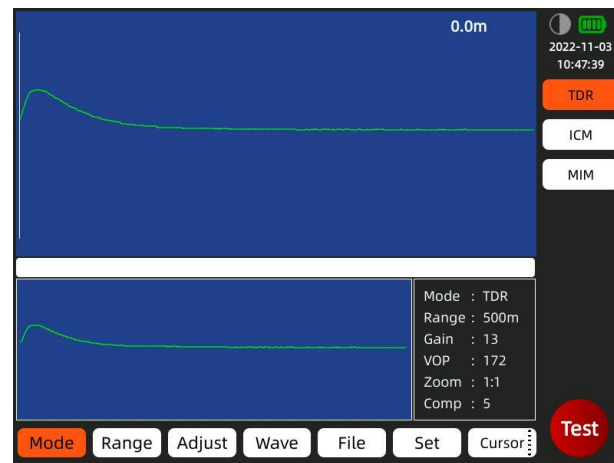

Figure 4.3 Operating mode selection
The TDR pulse can be launched by pressing the Test button (figure 4.3 ④). The corresponding TDR trace will then appear on the screen.